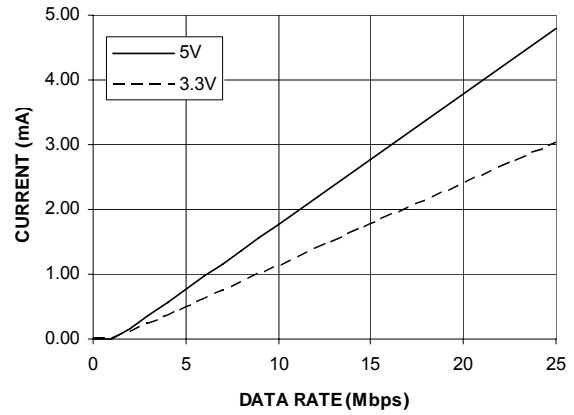
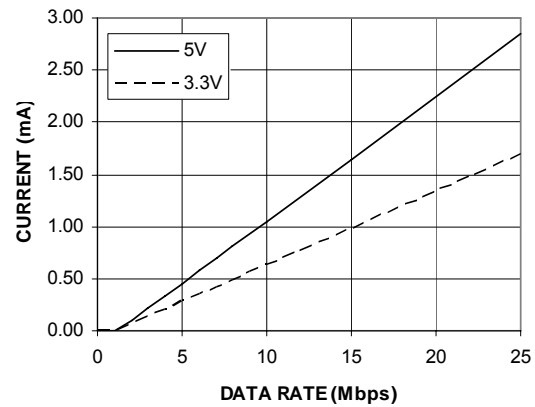

Figure 15. Typical $I_{ISO(D)}$ Dynamic Supply Current per Input
Figure 16. Typical $I_{ISO(D)}$ Dynamic Supply Current per Output (15pF Output Load)
Both Dynamic I/O current is consumed only when operating at channel at speeds higher than the rate f_r . Since each channel will have a dynamic current that is determined by its data rate, Figure 15 shows the current for a channel in the forward direction, which means that the input on the primary side of the part. Figure 16 shows the current for a channel in the reverse
- I_{Chn} is the current drawn by a single channel determined from Figure 15 or Figure 16 depending on channel direction.
- $I_{ISO(D)n}$ is the dynamic load current drawn from V_{ISO} by an input or output channel, as shown in Figure 15 and Figure 16. Data is presented assuming a typical 15pF load